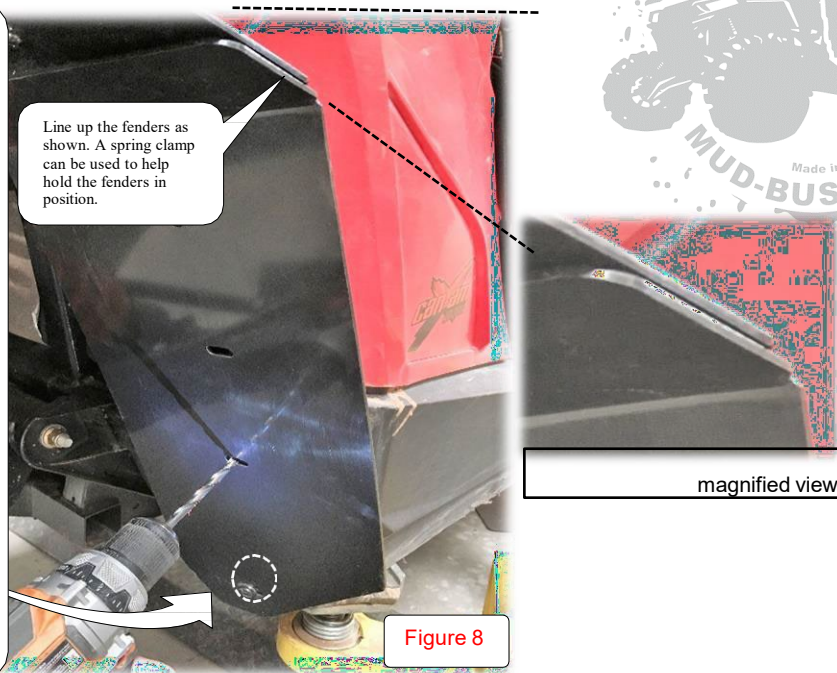

Figure 8
- 8) Place the lower rear fender up against the lip located in the inner fender well. The top of the lower rear fender should meet the upper rear fender. (Re-shape the bend if necessary). See **Figure 8**.
- 10) Drill the first 1/4" hole at the bottom of the fender, insert (1) 3/4" bolt with a washer on both sides, and a lock-nut on the back side. Finger tighten the hardware to allow for adjustment.